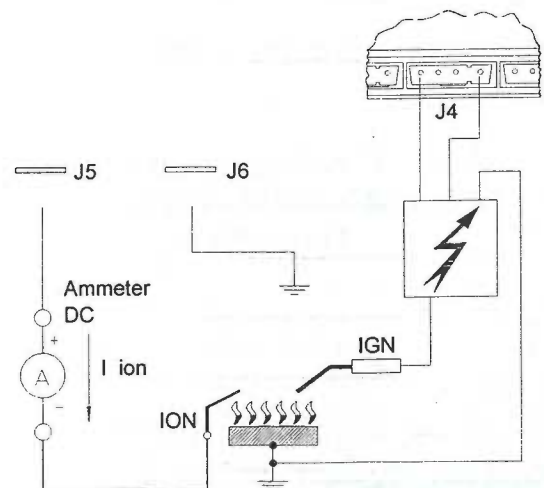

Fig.5
- the level of the flame signal is high enough (see Fig.5 for the measuring test);